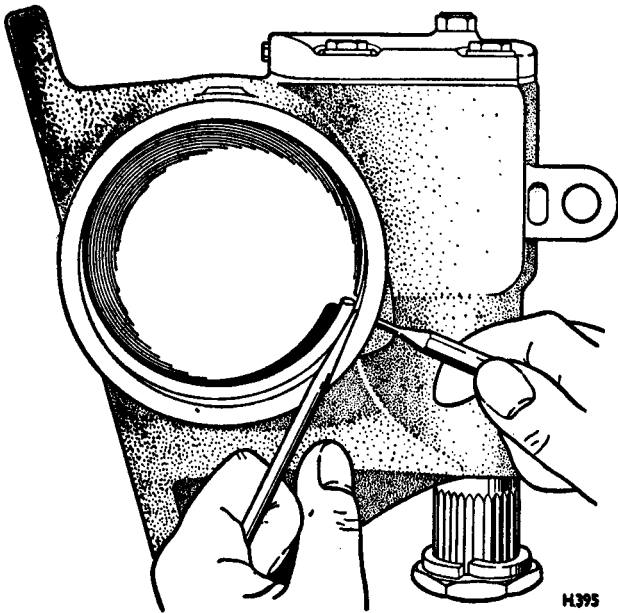

FIG. N23 REMOVING END PLUG RETAINING RING
2. Rotate the end plug retaining ring so that one end of the ring is over the hole in the housing. Spring one end of the ring with a punch to allow a screwdriver to be inserted and lift the ring out (see Fig. N23).